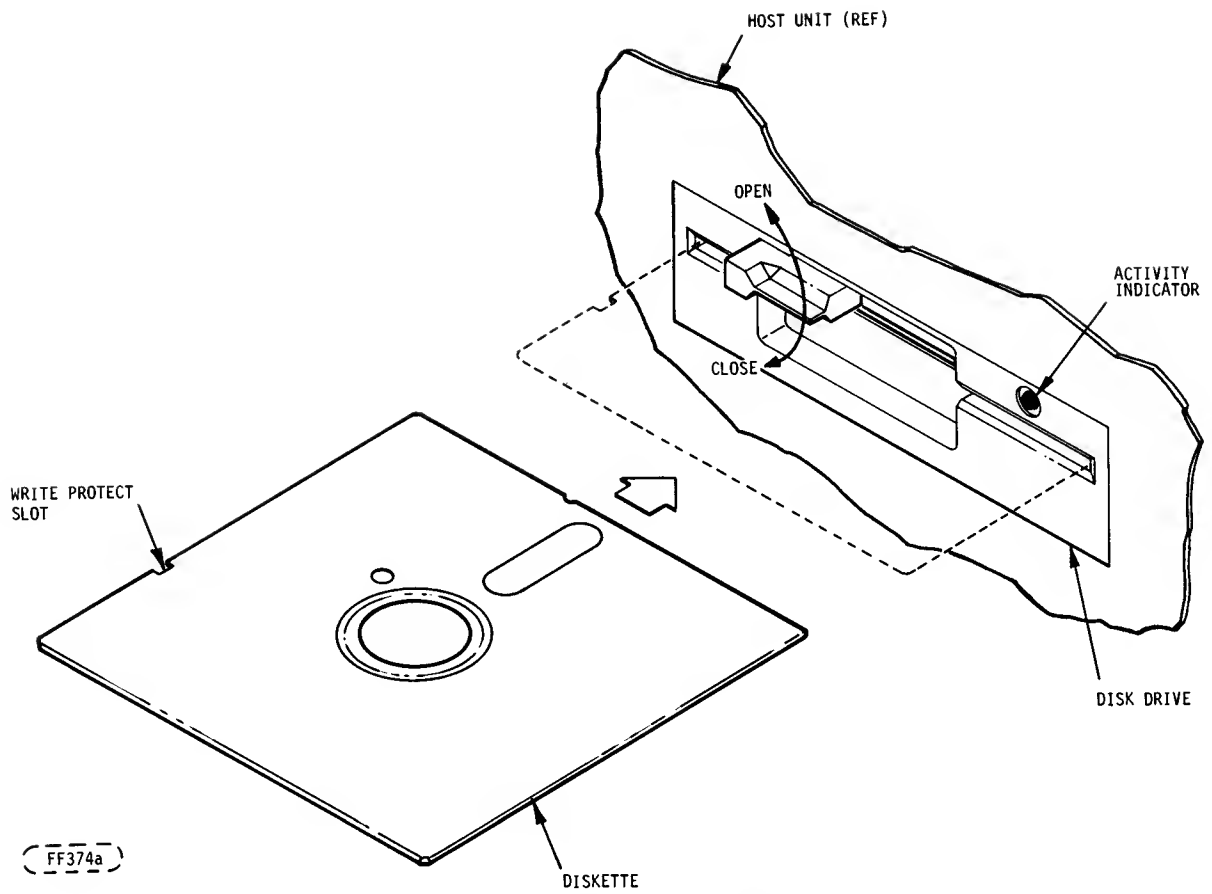

FIGURE 2-1. DISKETTE INSTALLATION
- d. Be sure the Write Protect slot in the jacket, as shown in Figure 2-1, is covered if the diskette is to be write protected.
- e. Carefully slide diskette into FDD, as shown in Figure 2-1, until jacket is solidly against stops.